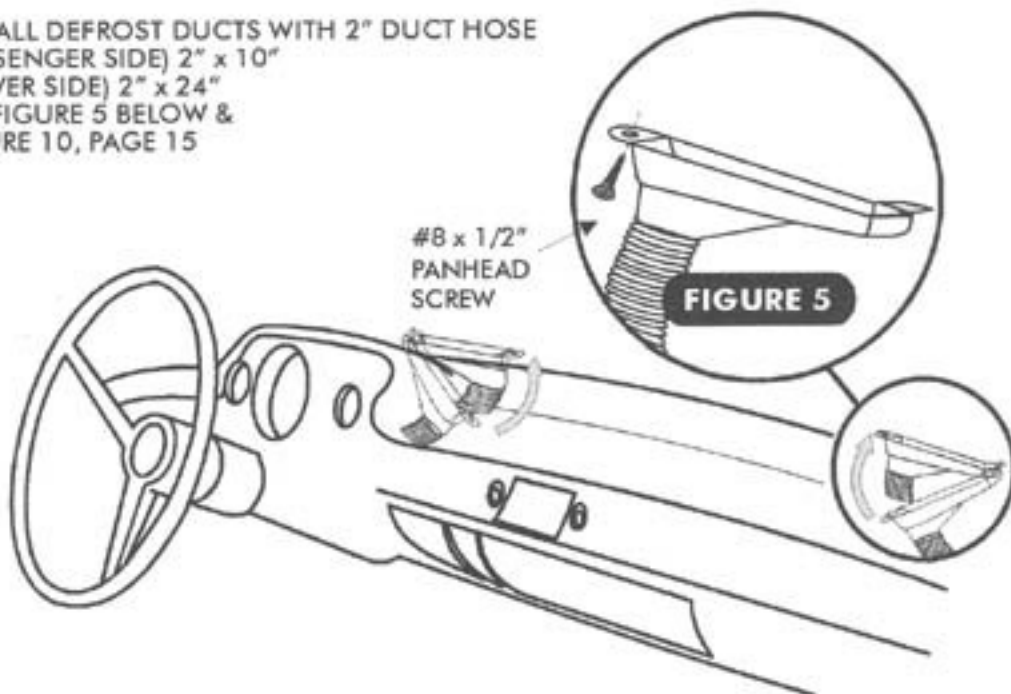
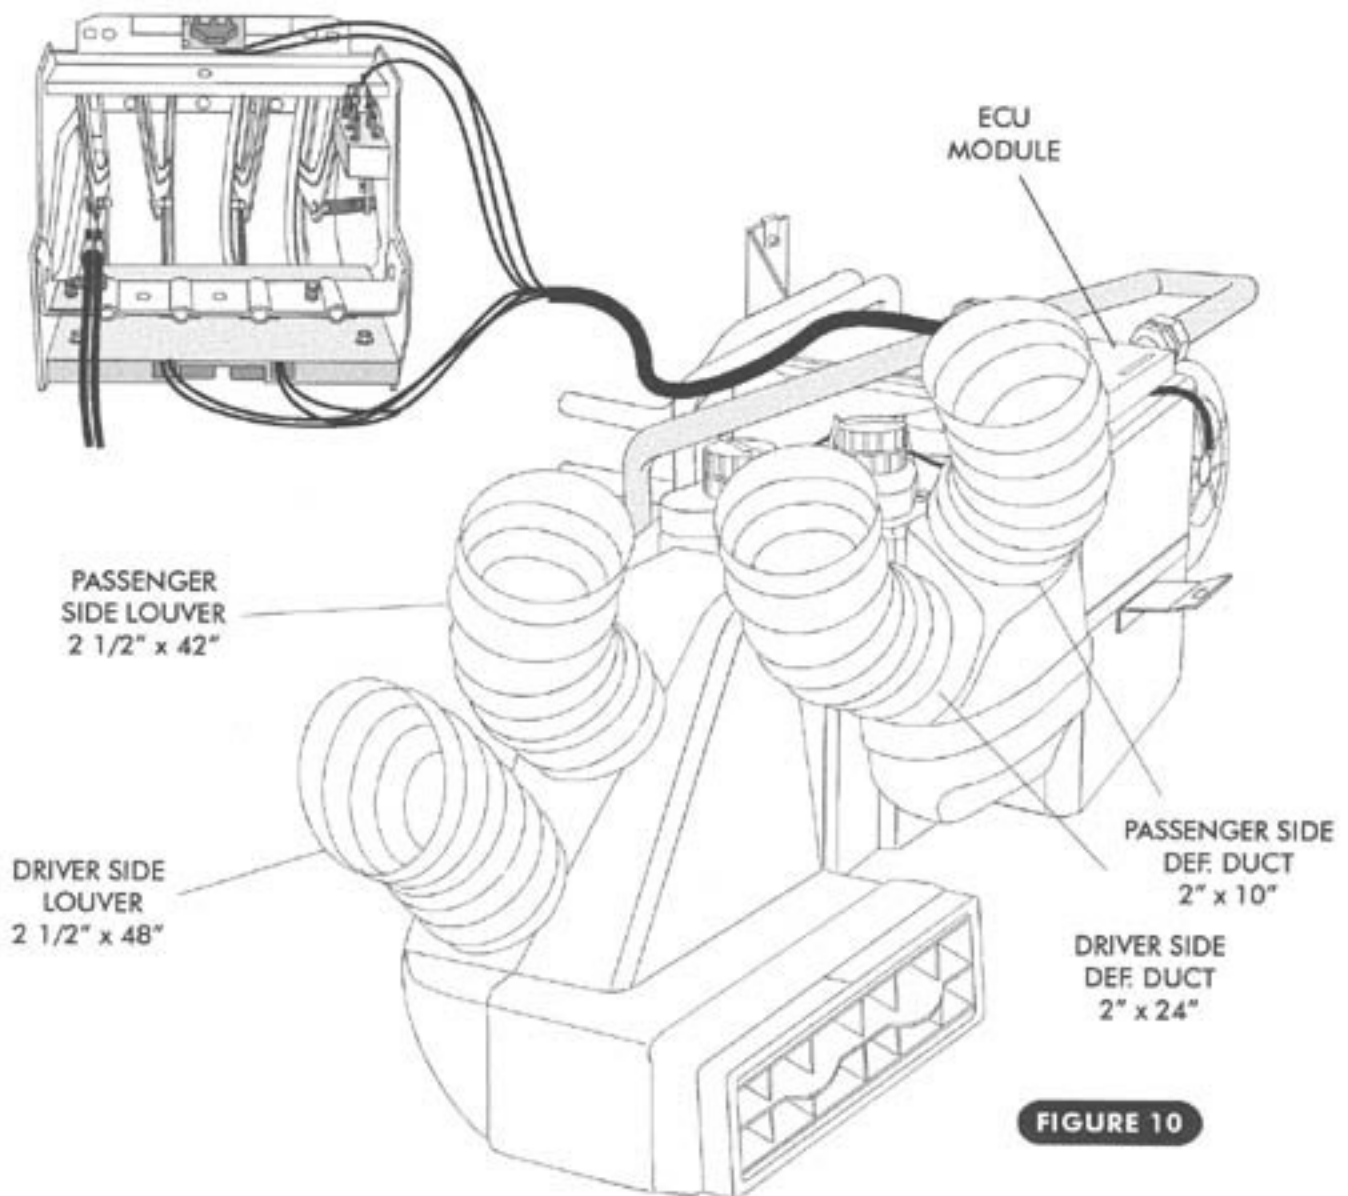

FIGURE 5
FIGURE 10
- ☐ INSTALL DEFROST DUCTS WITH 2" DUCT HOSE (PASSENGER SIDE) 2" x 10" (DRIVER SIDE) 2" x 24" SEE FIGURE 5 BELOW & FIGURE 10, PAGE 15
- ☐ INSTALL DUCT HOSES AS SHOWN IN FIGURE 10 BELOW.